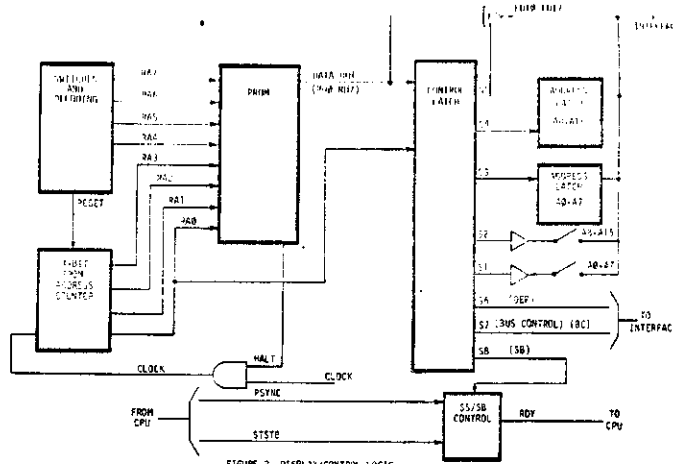

FIGURE 2. DISPLAY/CONTROL LOGIC BLOCK DIAGRAM
The general interrupt service routine is listed in Figures 2 and 3.
Figure 2 lists the memory locations to which the Vectored Interrupt (VI) board forces the CPU to execute. A typical routine (INTI), first pushes the B/C and D/E register pairs, and then calls the general interrupt service routine (LEVEL). Following the call are three bytes of parameters for LEVEL. First is the new level mask work for the VI board, then two bytes of the address of the specific interrupt handling subroutine for the level.
The block diagram, Figure 2, shows the Display/Control logic itself (from a functional block viewpoint).